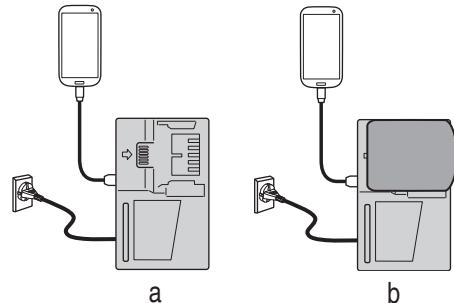

Fig. 8
- Charging a USB device from a electrical outlet. (Fig. 8-a)
- Charging a USB device and battery from a electrical outlet. (Fig. 8-b)